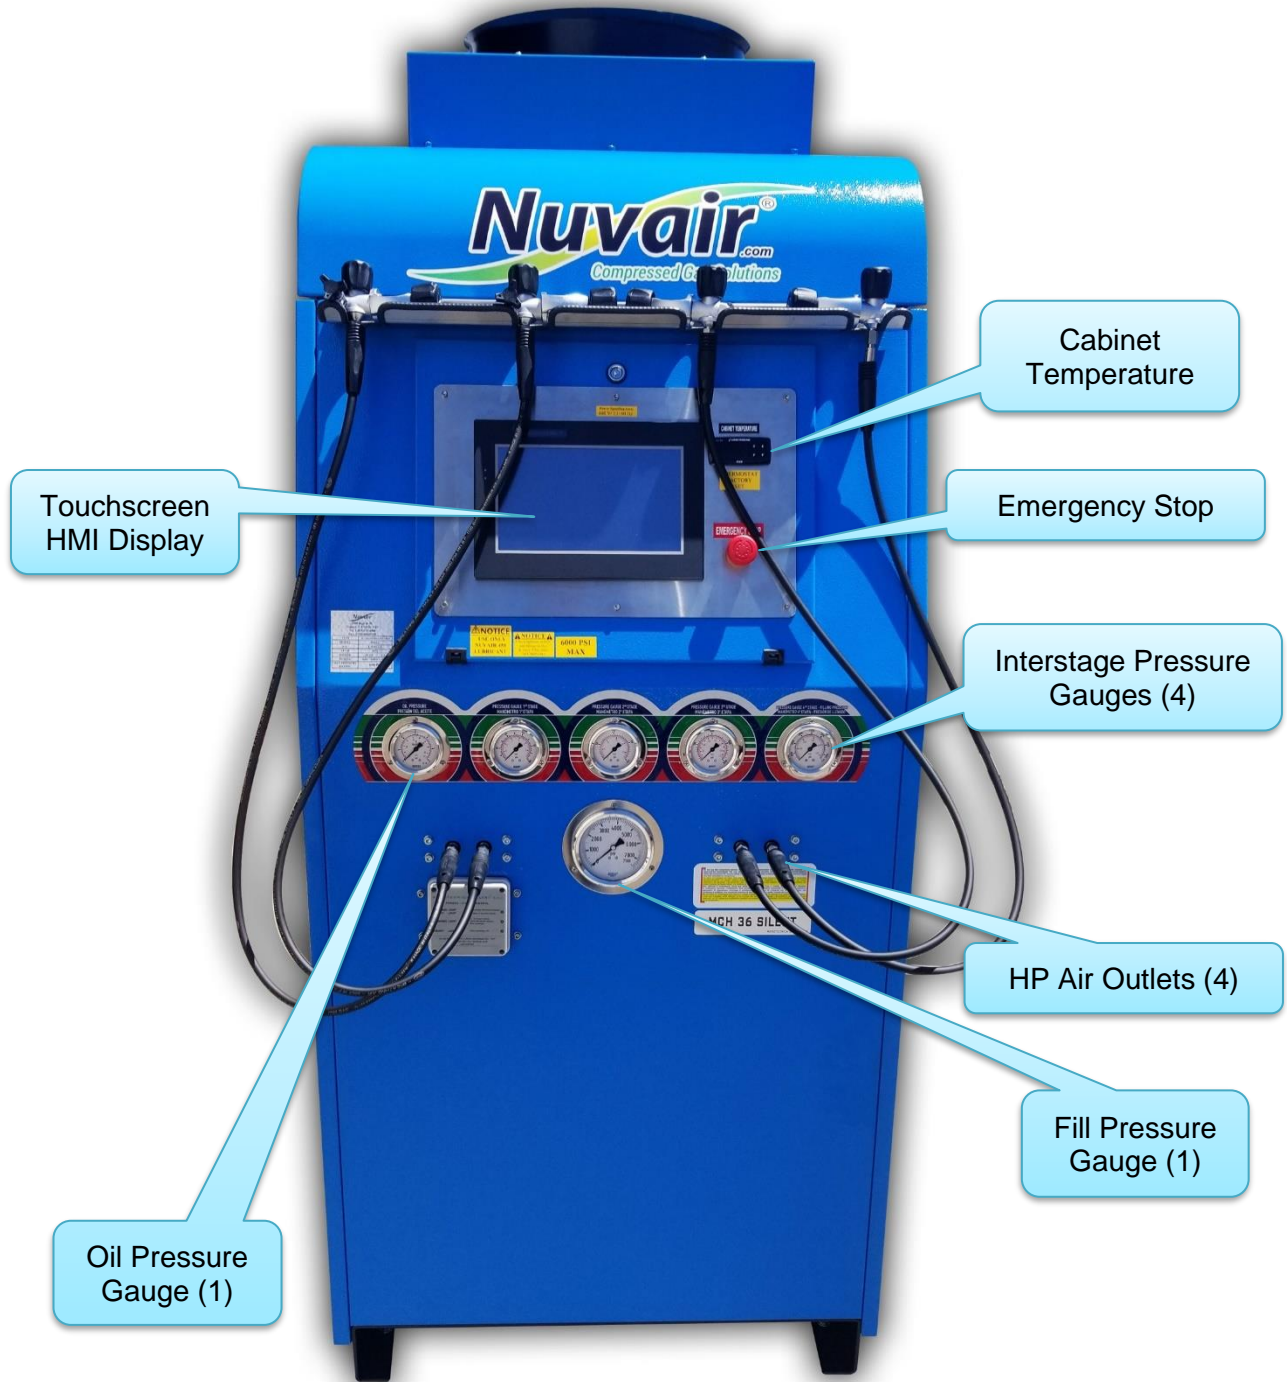

Figure 2. The NuVair MCH36 Silent Touch Compressor.
To prevent accidents and injuries, all operators must be aware of the potential high-risk areas (Figure 2) of the compressor unit:
9. If an active alarm is present, it will display in the “Alarm Summary” box (Figure 2). Once the alarm is rectified, press “RESET” to clear the alarm. The compressor can be used as normal after resetting the alarm.